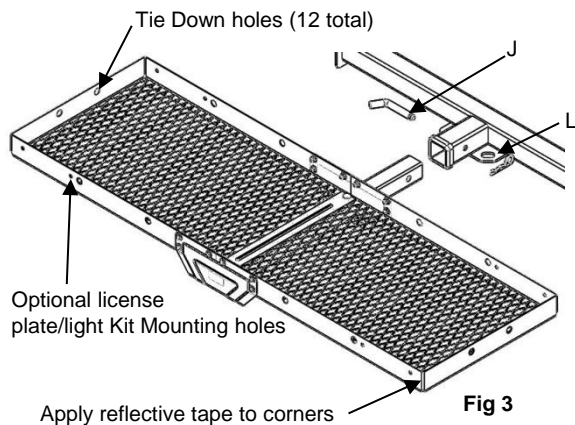

Fig 3
- For 2" hitches, slide Cargo Carrier shank into hitch so that hitch holes and shank holes are aligned. Insert 5/8" hitch pin through hole and secure with clip. (Fig 3)